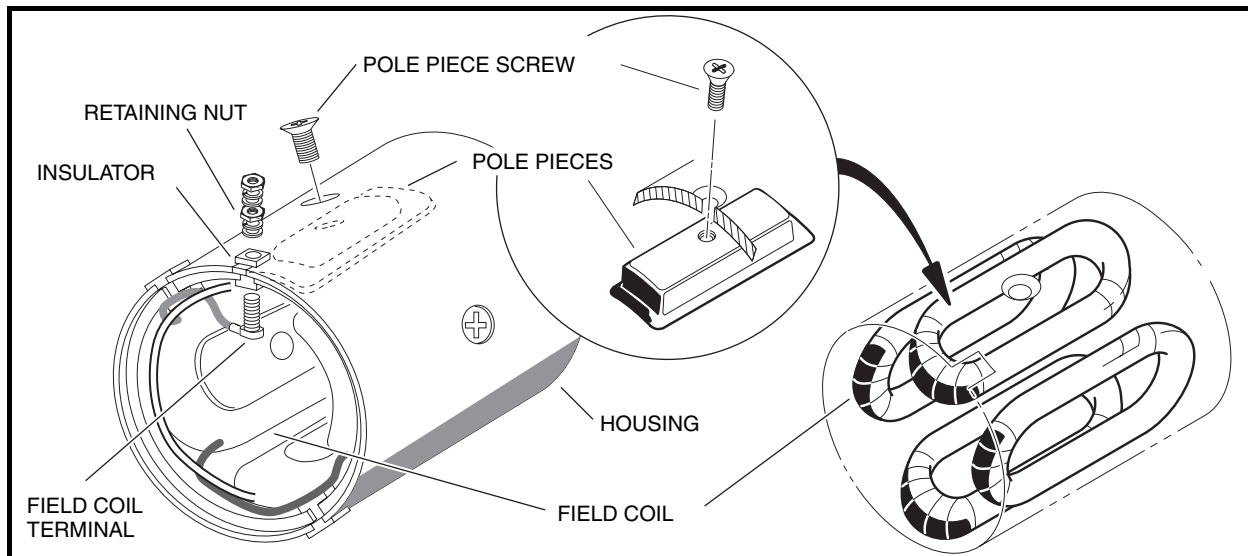

Figure 13-10 Field Coil Removal
1. Remove the retaining nut from each field coil terminal and slide the insulator out of the slots in the housing. Remove the four pole piece screws from the housing. Remove the four pole pieces from inside the housing. Remove the field coils from the inside of the housing (**Figure 13-10, Page 13-6**). **See following NOTE.**
NOTE: Do not remove the insulators or the field coils unless an electrical test indicates that it is necessary (**Figure 13-10, Page 13-6**). **See Test Procedure 8, Section 11, Page 11-17.**
2. After the insulators are seated in the slots, install the threaded terminals through the wire connectors and then through the insulators. Install a flat washer, lockwasher and nut onto each threaded terminal on the outside of the housing. Tighten nuts to 47.5 in-lb (5.4 N·m) (**Figure 13-10, Page 13-6**). See following **CAUTION**.
3. Install the four pole pieces into the housing. Use the four screws to secure pole pieces to the inside of the housing to retain the field wires. Tighten screws to 9 ft-lb (12.2 N·m) (**Figure 13-10, Page 13-6**).